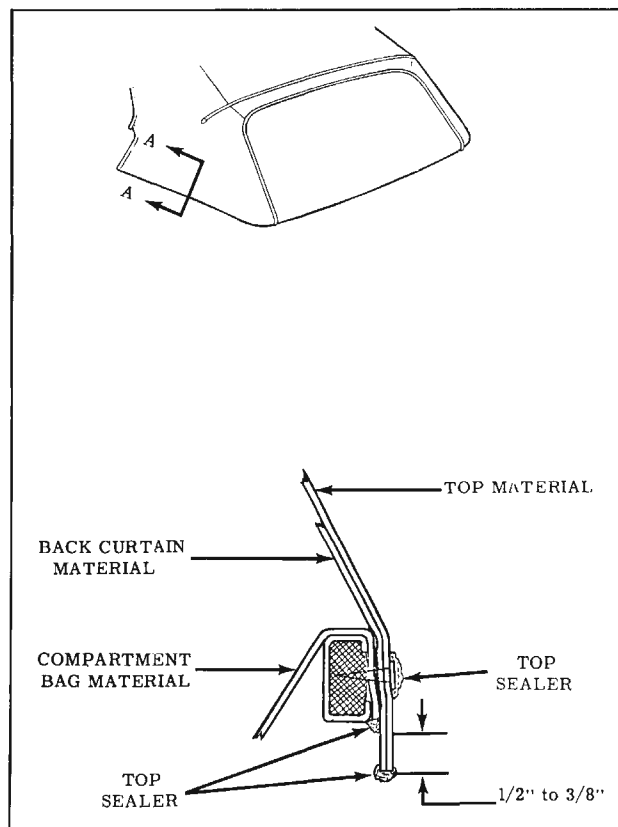

Fig. 16-132 Sealing at Trim Sticks
43. Remove trim sticks with attached top material from top compartment well. Back curtain should extend  $1/2"$  below trim sticks. (See Step 8 of installation procedure). In addition, top material must extend  $1/2"$  to  $5/8"$  below trim sticks to minimize water wicking on inner lining of back curtain material. (View "A-A", Fig. 16-132) Trim top material as required.
44. Apply convertible top sealer (nitrile) onto all trimmed edges, around each tack head and around each trim stick attaching bolt hole. (View "A-A", Fig. 16-132)